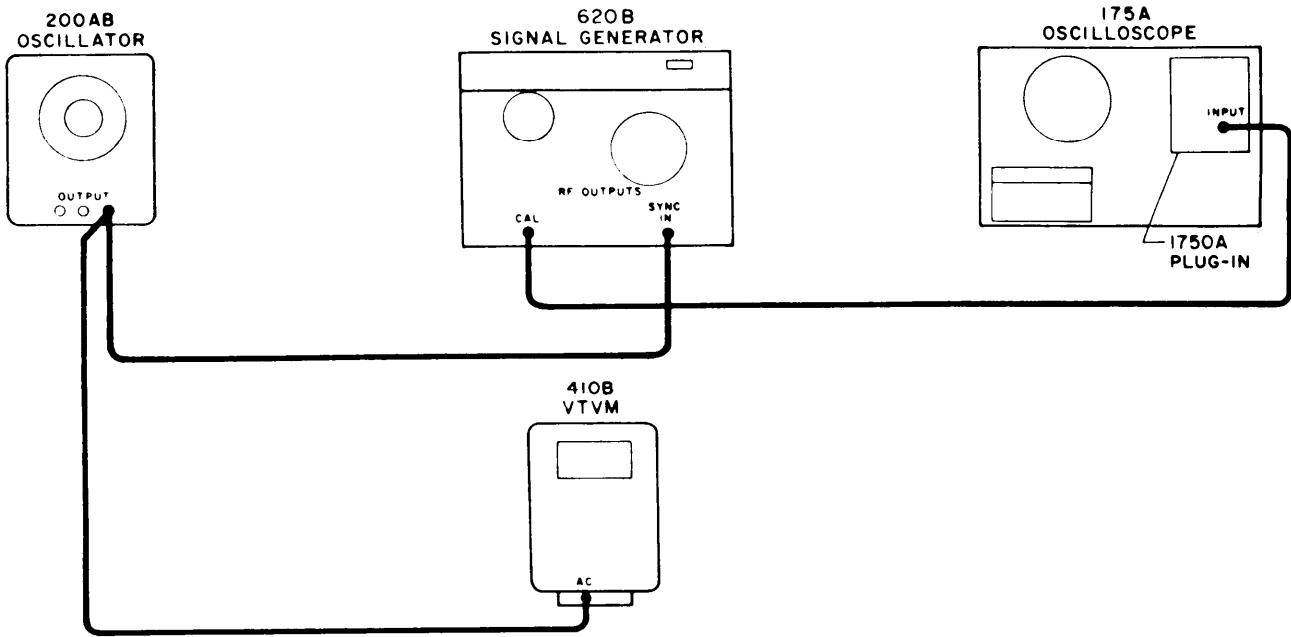

Figure 5-6. Setup for Testing External Sine-Wave Synchronization.
a. Connect Signal Generator in test setup shown in Figure 5-6.
a. Connect Signal Generator in test setup shown in Figure 5-6, but replace Oscillator with Model 214A Pulse Generator.